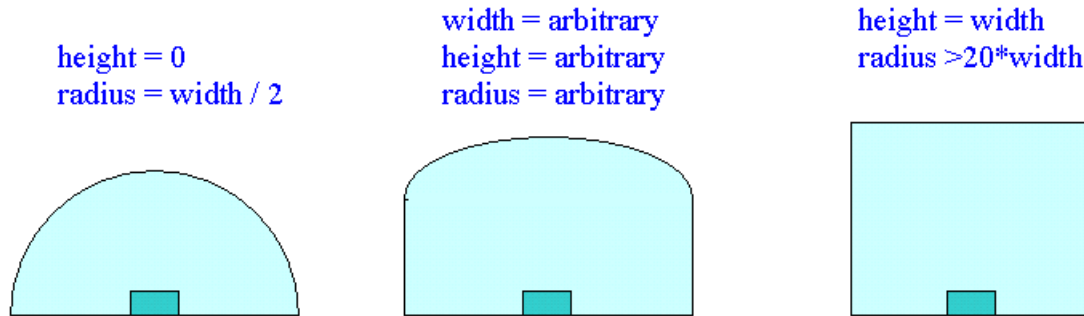

Figure 2.6: Some different shapes of the dome
- **dome_radius** is a radius-dimension in units of μm of LED encapsulation, only in case **set_domed=yes** (see Figure 2.5). A recommended range for the radius of curvature of the emitted side is from **width**/2 to **width***20, otherwise program will correct automatically its value to a reasonable limit. This range allows to build a wide set of the different dome shapes. Figure 2.6 shows some different shapes of the dome.